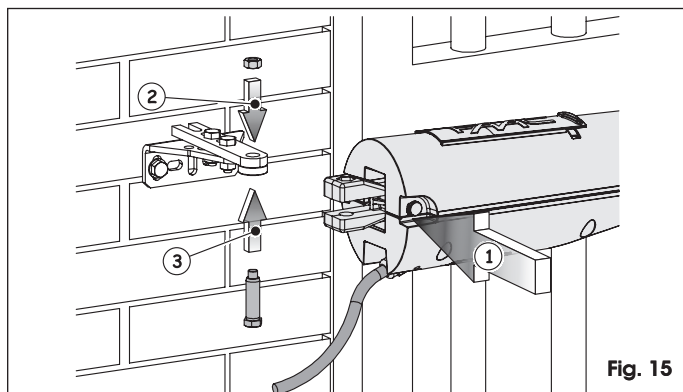

Fig. 15
6. Secure the operator to the rear bracket using the appropriate bolt supplied, as indicated in figure 15.